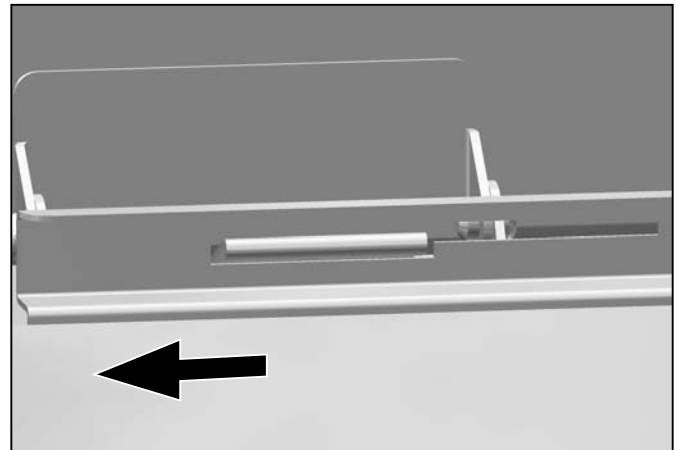

*Fig. 13 Screw attachment rail to the cooling unit*
1. Screw attachment rail D or E to the cooling unit with three screws, as shown in Fig. 13. The attachment rail E must stick out in the direction of the mains switch.